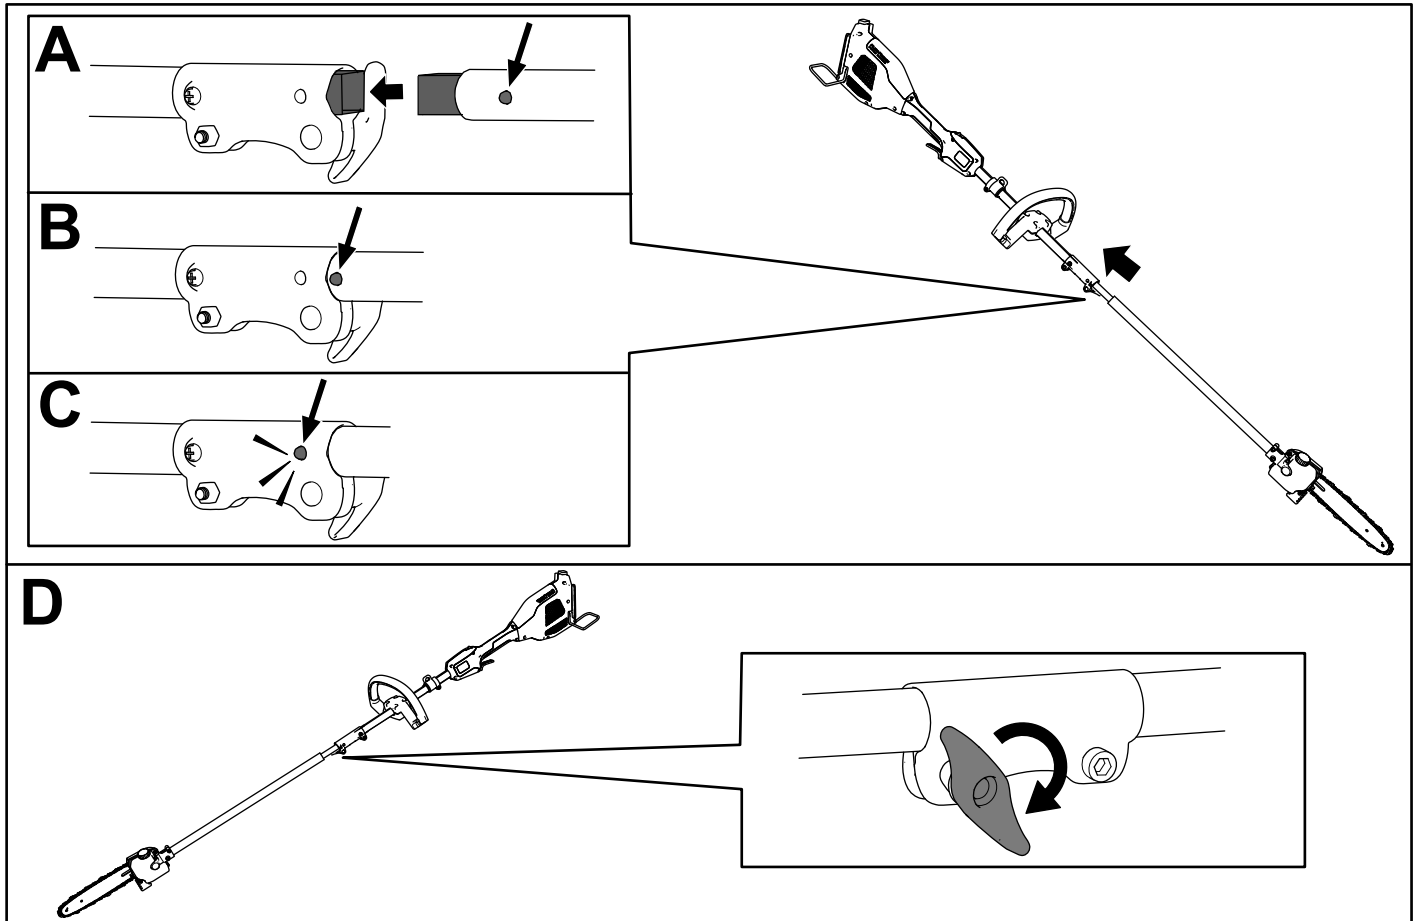

Figure 4
1. Install the square shaft of the attachment into the square shaft of the power head (A of Figure 4).
2. Align the locking button on the lower shaft with the slotted hole on the upper shaft and slide the 2 shafts together (B and C of Figure 4).
**Note:** The locking button clicks into the slotted hole when the shafts are secured (C of Figure 4).
3. Using the screw-handle, tighten the screw on the shaft connector until it is secure (D of Figure 4).
2. Loosen the screw-handle on the shaft connector (Figure 4).
3. Press the locking button down while pulling the 2 shafts apart (Figure 4).